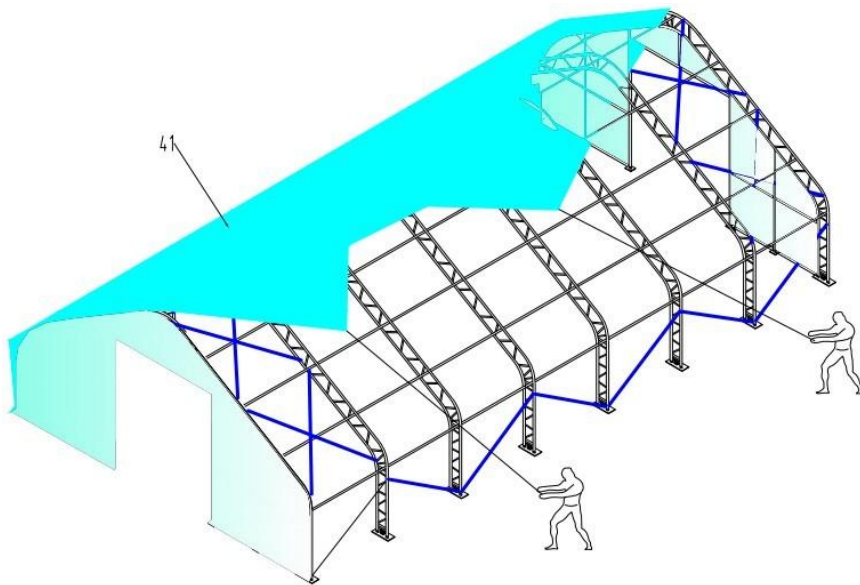
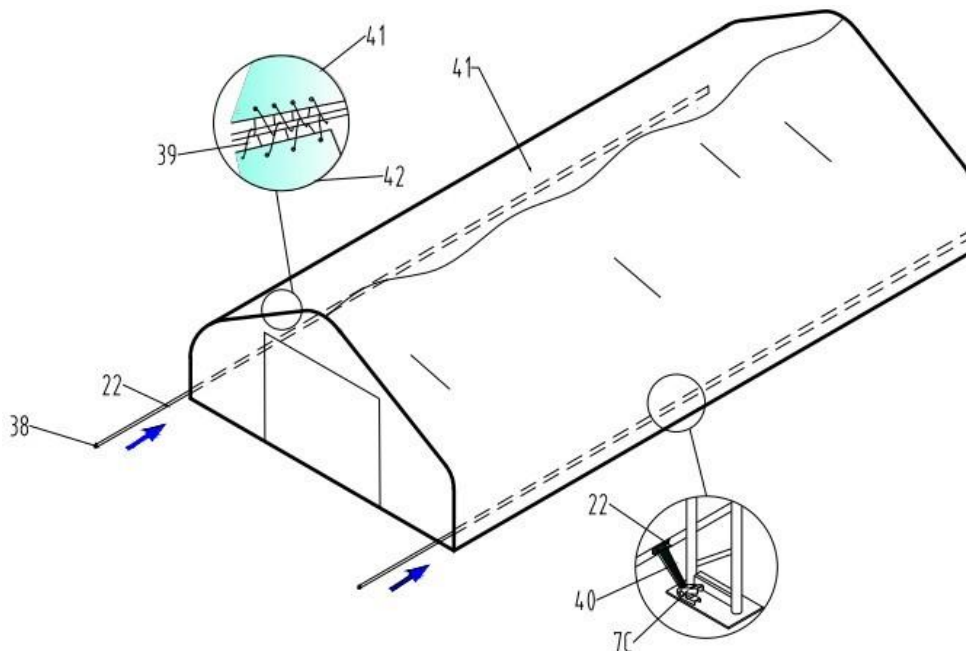

Figure 11
Figure 12
1. As Figure 11 shows, when Roof cover is over top of Frame assembly (see Figure 11) ,insert Tensioning tubes(NO.22) into pockets along both sides of Roof cover, connect the Ratchet (Part NO.7C) to the tensioning tube by part (see Figure 12),then put the plastic cap (NO.38) to end of tensioning tubes.
2. As Figure 12 shows, align one side of Roof cover evenly front to back, add band(No.30) for tie down ratchet at each point along the cover opening, Put band for tie down ratchets over cover tensioning tubes at each base plate along one side. Bands do not attach to tensioning tubes, but loop around and secure at both ends on ratchet.